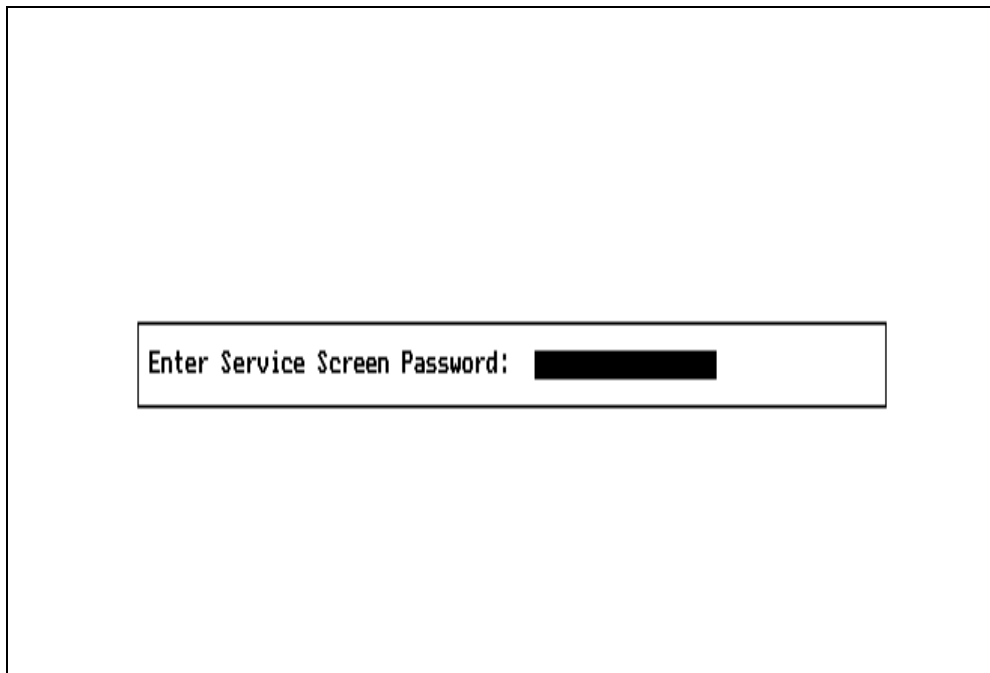

Figure 15B: PASSWORD SCREEN
4.B Since the Service Functions screen is intended for NAD service personnel only, a prompt for the service password will appear, as shown in Figure 15B.